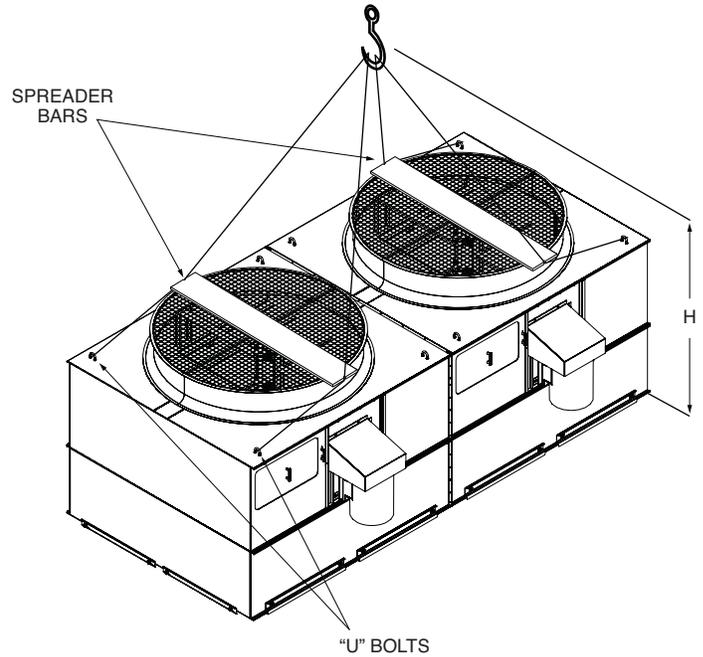

Figure 22 – Top Sections, Models 27-518-27-918
The preferred method for extended lifts is to use slings under the unit (see Figure 22). Spreader bars should always be used between the cables at the top of the section to prevent damage to the upper flanges or fan cylinders.
Lower the fan/fill section to within several inches (centimeters) of the basin vertical posts, making sure the two sections do not touch and the sealer is not disturbed. Place drift pins (see Figure 22) in at least (3) of the corner mounting holes and gradually lower the fan/coil section into place using the drift pins to guide the section down accurately onto the mating vertical posts. Place washers, nuts and bolts in all four corner bolt holes. Then continue to install the rest of the washers, nuts and bolts on the remaining vertical posts.